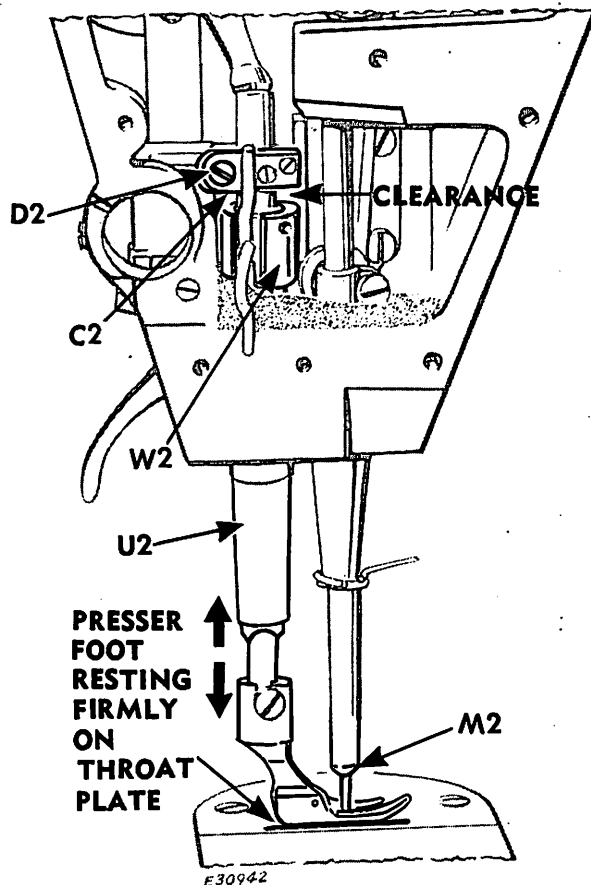

Fig. 49. Checking Height of Presser Bar
2. When presser foot rests firmly upon throat plate (with feed dog below throat plate) there should still be some clearance between presser bar position guide C2, Fig. 49 and lifting bracket W2, as shown in Fig. 49.
3. When presser foot is at its highest point and needle bar is at its lowest, top of presser foot should clear the lower end of needle bar M2, Fig. 49.
- Loosen clamping screw D2, Fig. 49.
- Raise or lower guide C2, Fig. 49 as required.
- Presser bar bushing U2, Fig. 49, should be set so that its top is even with top of lifting bracket W2, Fig. 49 when bracket is all the way down.